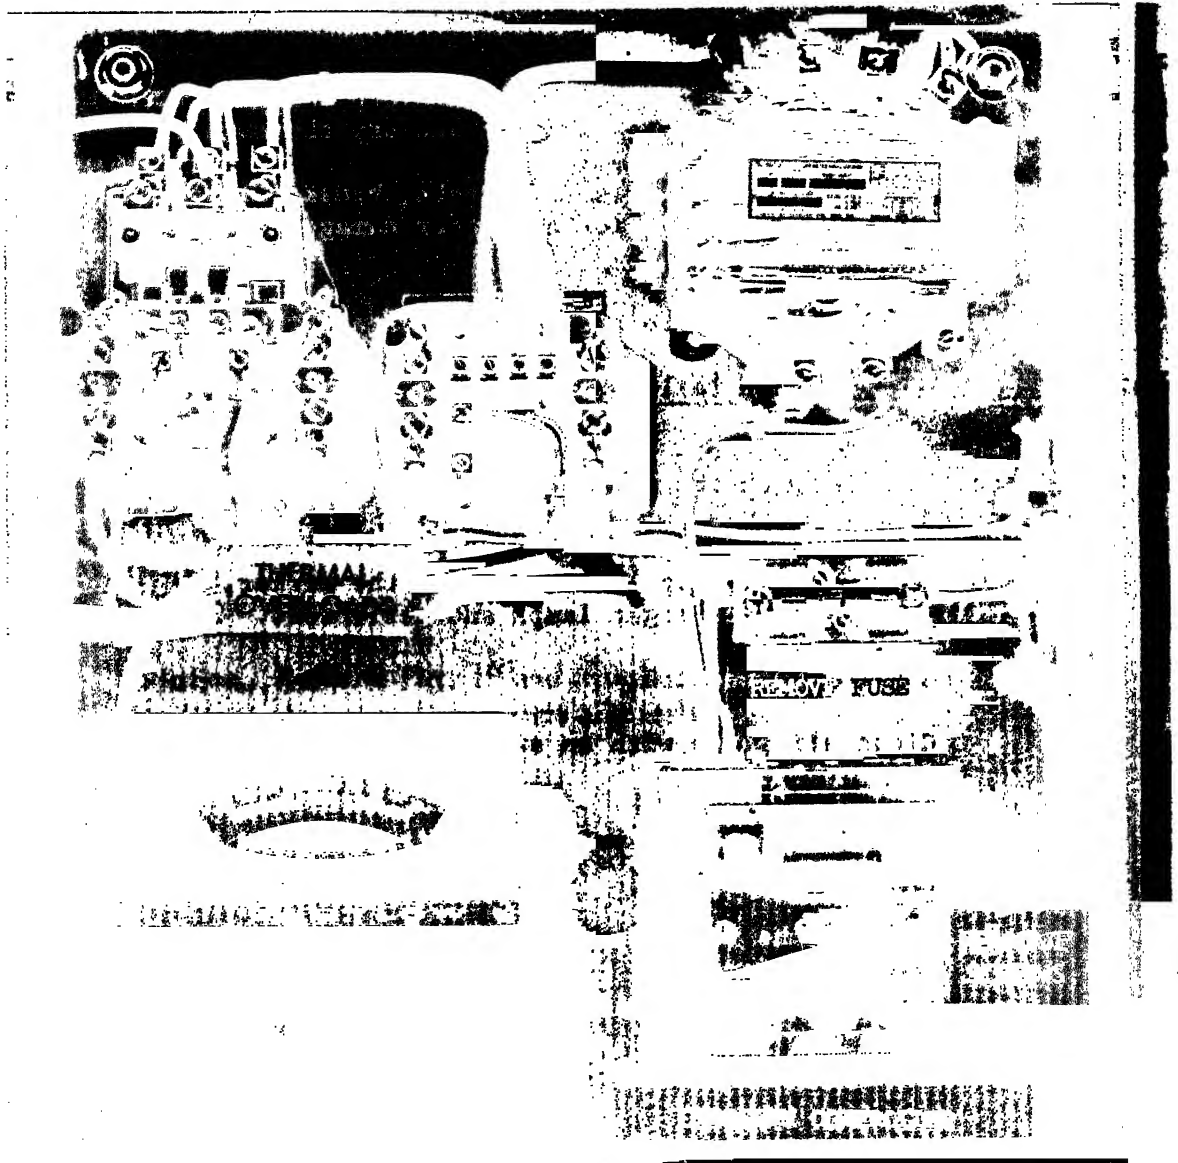

FIGURE 18. SERVICE TO PROGRAM CONTROL AND FUSES
- a. Removal. Refer to Fig. 18 and remove the fuses.
c. Installation. Refer to Fig. 18 and install the fuses.
a. Removal. Refer to Fig. 18 and remove the program controller.
c. Installation. Refer to Fig. 18 and install the program controller.